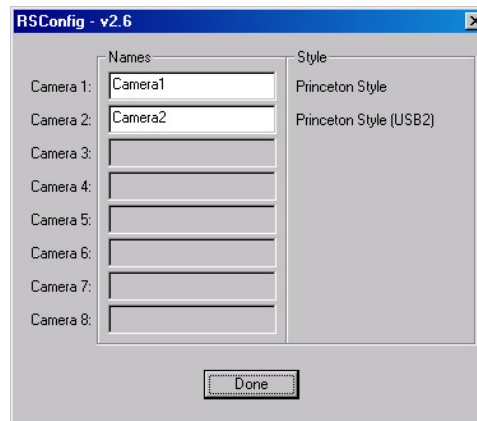

Figure 60. RSConfig dialog box: Two Camera Styles
4. When the RSConfig dialog box (Figure 60) appears, you can change the camera name to one that is more specific or you can keep the default name "Camera2". When you have finished, click on the **Done** button.